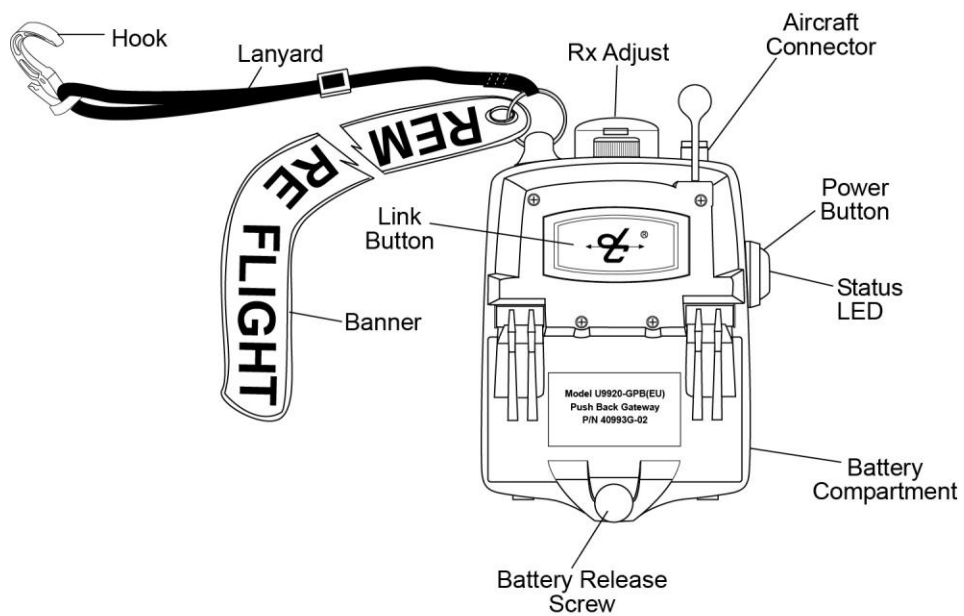
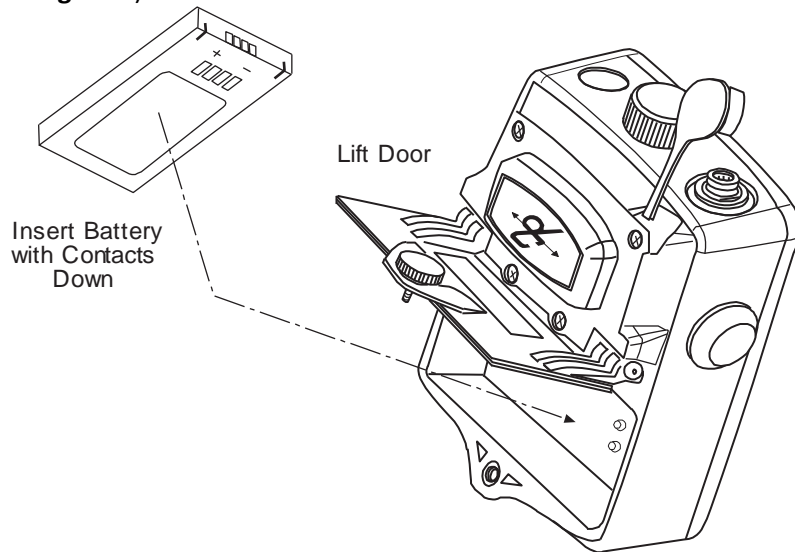

Figure 1: Overview of Gateway
Figure 3: Battery Insertion/Removal
The included lanyard and hook assembly, with *Remove Before Flight* banner (see **Figure 1**), facilitates the temporary mounting of the U9920-GPB to an aircraft. Care and judgement should be exercised when attaching to any part of the aircraft so that damage does not occur to the aircraft or the gateway.
Audio levels can vary between aircraft. To compensate for this, the U9920-GPB(EU) has a receive level adjust knob (see **Figure 1**). Turning this knob will increase or decrease the audio level coming from the aircraft and into the wireless intercom. By adjusting this knob, optimum performance can be achieved.
All David Clark 9900-series wireless belt stations and battery operated controllers/gateways use a 3.7V Li-Polymer rechargeable battery. This battery is removed by loosening the battery release screw (See **Figure 1**). The batteries are charged with the A99-04CRG 4-bay battery charger (41034G-01). When installing a battery, take care to align the battery properly and fully tighten the screw (see **Figure 3**).